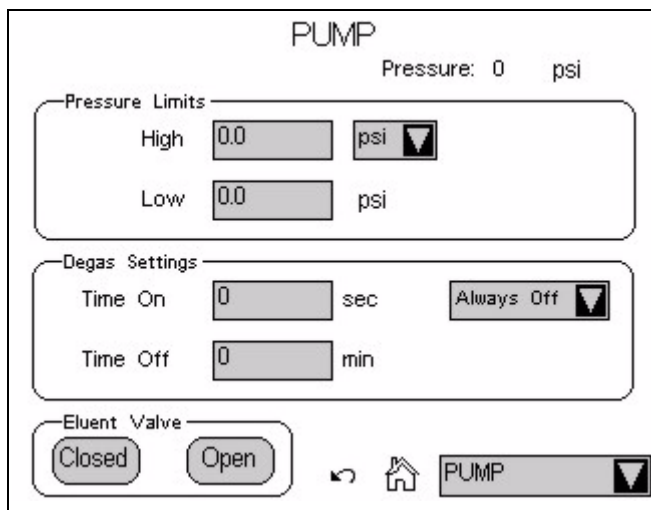

Figure B-28. Pump Page: Eluent Valve Open
5. Touch **PUMP** to open the touch screen **PUMP** page (see Figure B-28). Under **Eluent Valve**, touch the **Open** button.